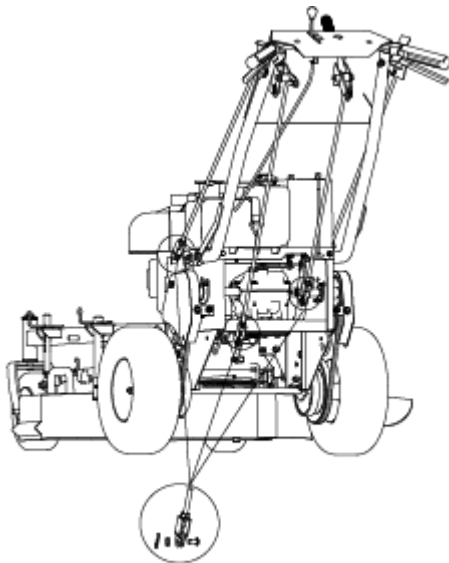

FIG 4
- Unfold the handle, and fix the handle with four M10×25 Flange Hd. Bolts and four M10 locknuts on each side as shown in FIG 4.
- All of the control rods, (left and right drive, blade control and speed selector) have a clevis that is secured with a M8 x 16mm clevis pin, washer and cotter pin.. See FIG 4